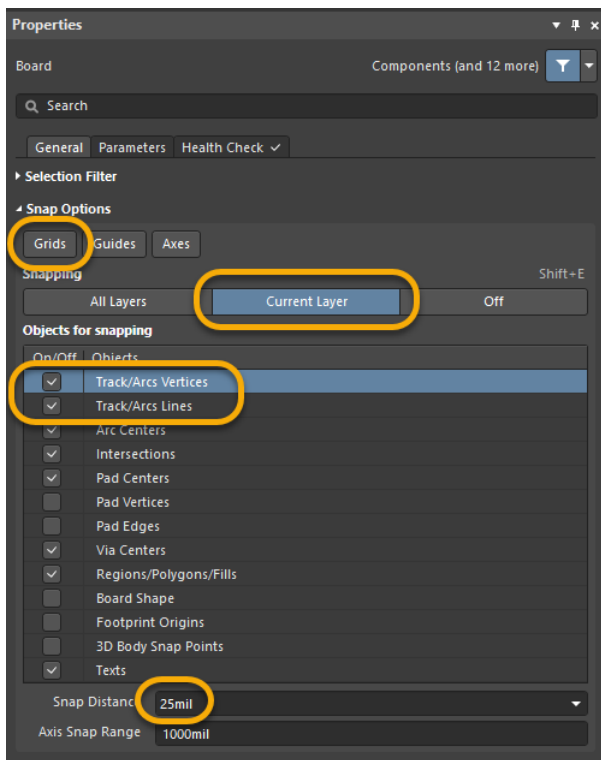

Figure 19. Snap Settings for placement of Mouse Bites
37. Use Figure 19 below to set the following settings in the *Properties* panel: